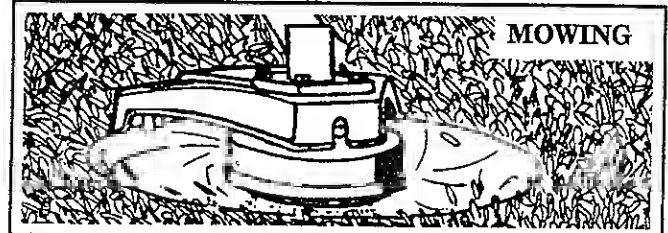

Figure 15
3. **MOWING** – Figure 15. Your trimmer is ideal for mowing in places conventional lawn mowers cannot reach. In the mowing position, keep the line parallel to the ground. Avoid pressing the head into the ground as this can scalp the ground and damage the tool.